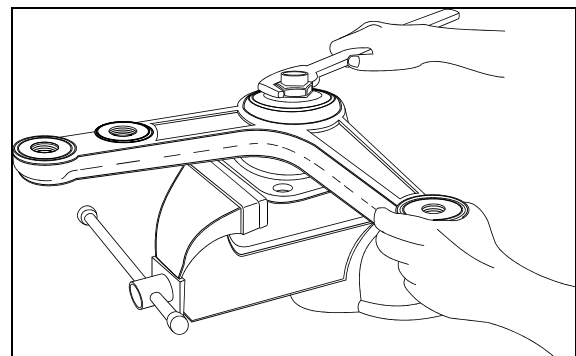

FIGURE 9: BELL CRANK
5. Firmly tighten nut (Fig. 9).